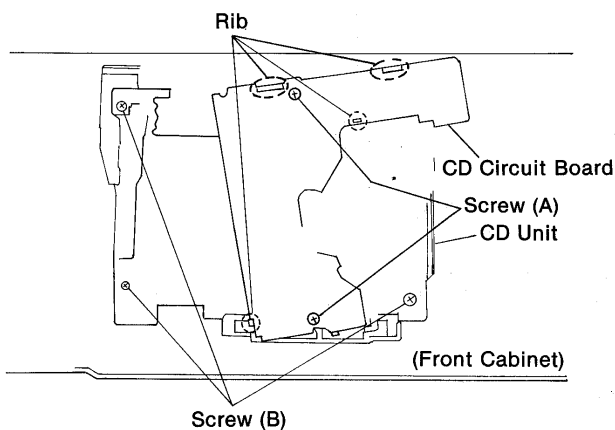

Fig. 3
5. Remove the two screws (A). (Fig. 3)
6. Attach the front cabinet to the CD unit, and secure it in place temporarily with three screws (B) used to attach the speakers. (Fig. 3)
7. Undo the three lugs so the CD circuit board becomes loose. (Fig. 3)